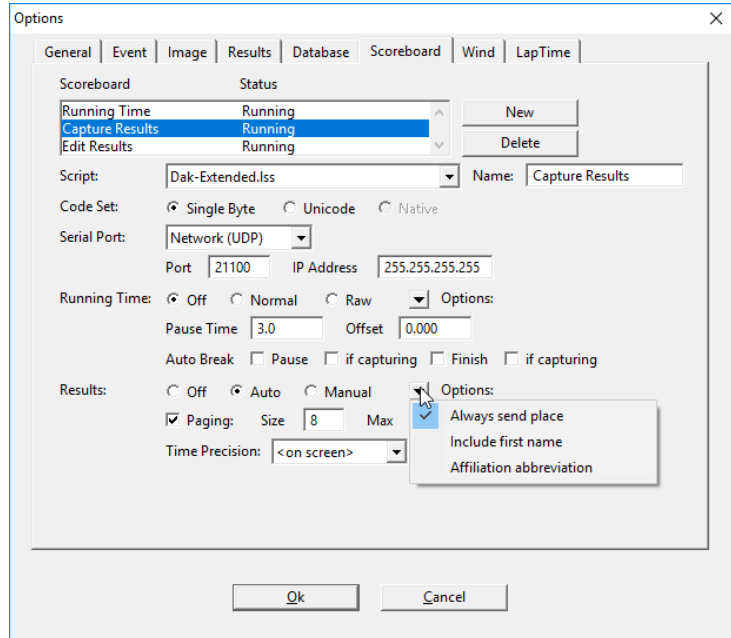

Figure 22: FinishLynx Results Options
- Set up the Capture Results options as follows (refer also to **Figure 22**):